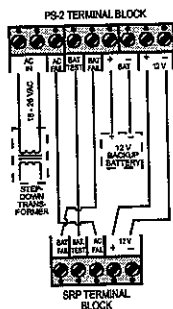

Figure 2. Connection to SRP-Type Units
A. Operation with SRP and SLC Units (Figures 2 and 3)
(1) Interconnect the identically marked terminals of the PS-2 and the SRP or SLC units, as shown in Figures 2 and 3, respectively (BAT FAIL to BAT FAIL and so on). When connecting the 12 V terminals, be careful not to reverse the (+) and (-) wires.
(2) Connect the secondary winding of a step-down transformer with 18 - 24 V/1A (18 VA min.) rating across the AC IN terminals of the PS-2. Then connect the transformer's primary winding to the AC power line.
- (3) Connect a 12 VDC / 6 Ah sealed lead-acid battery across the BAT terminals of the PS-2. Observe polarity.